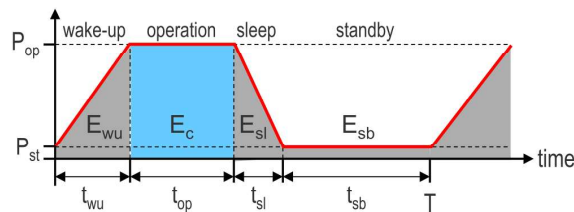

Figure 1: Scheme for alternating active tasks and long sleep periods.
- The power can be aggressively reduced by duty cycling the IoT node operation, alternating active tasks and long sleep periods as depicted in Fig. 1, with periodicity set by the wake-up cycle  $T$ .